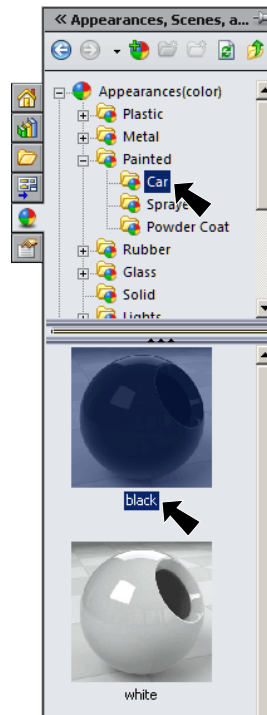

Fig. 13
Step 5. In the Appearances Task pane, expand **Painted**, click **Car** and in the lower pane select **black**, **Fig. 13**.